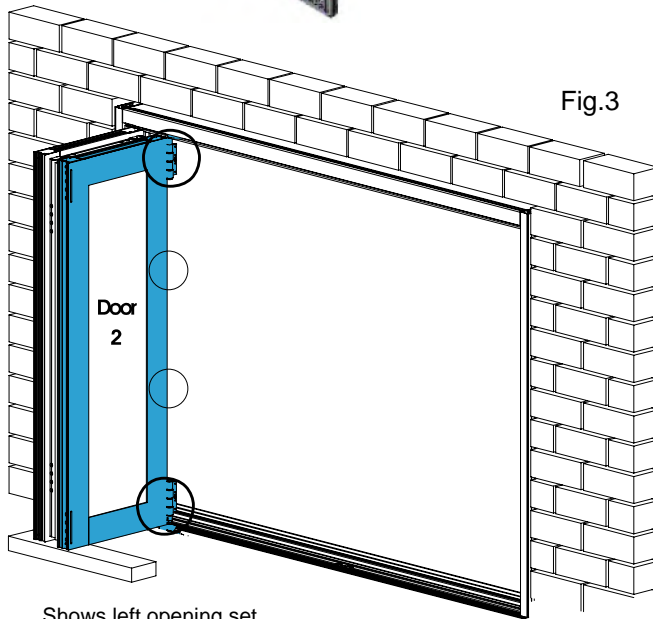

Fig.3
**c)** Move the door to the right-angle position and support on blocks, ensuring the weight is not on the door seal. (Fig 3).